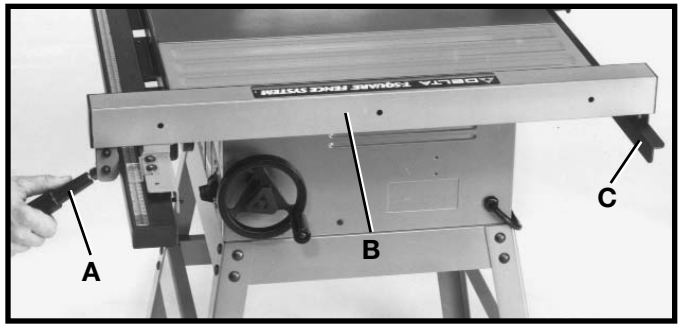
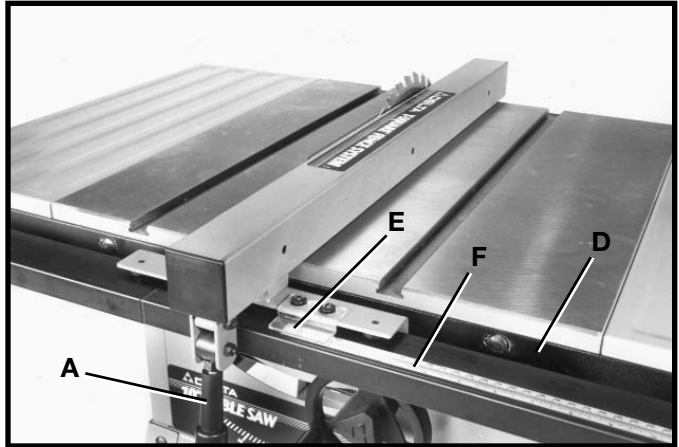
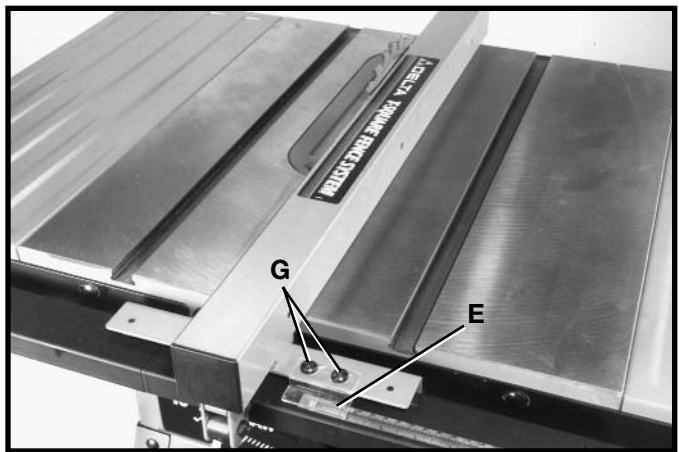

Fig. 22
Fig. 23
Fig. 24
2. With handle (A) Fig. 22 in the raised position, place rip fence (B) on the saw table as shown. **NOTE:** Make certain rip fence (B) is engaged on rear guide rail (C). Move rip fence (B) against saw blade as shown in Fig. 23.
3. Carefully move front guide rail (D) Fig. 23, left or right as needed until line on cursor (E) aligns with zero ("0") on guide rail scale (F). Push handle (A) downward to lock rip fence in position. Snug up front guide rail mounting hardware. Minor adjustment to the cursor (E) Fig. 24 can be made by loosening two screws (G), adjusting cursor left or right, and tightening two screws (G). Remove rip fence and lower saw blade.